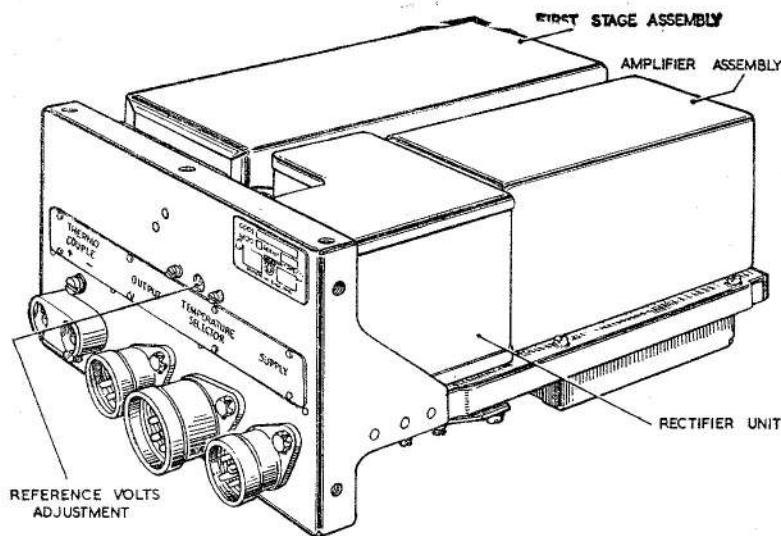
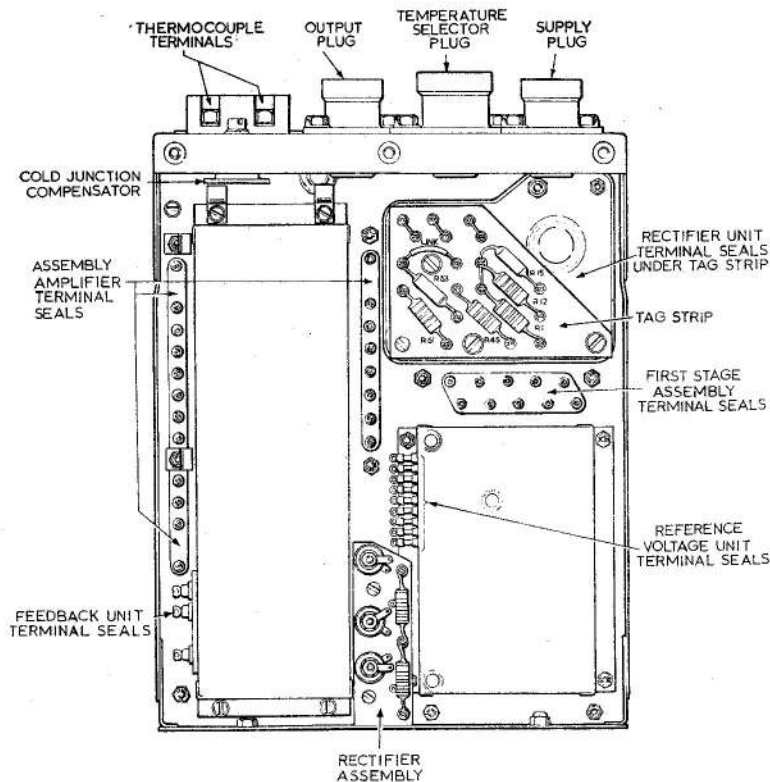

Fig. 1. Amplifier, with cover removed
Fig. 2. Underside of amplifier
2. The components of the amplifier are mounted on a fabricated aluminium alloy chassis which is attached to the front panel. The whole assembly may be withdrawn from the cover after removing the four securing screws. The first stage assembly, amplifier assembly and rectifier unit are mounted above the chassis (fig. 1), and the reference voltage unit and feedback unit below the chassis (fig. 2). These sub-assemblies are contained in metal cases sealed against the ingress of moisture.